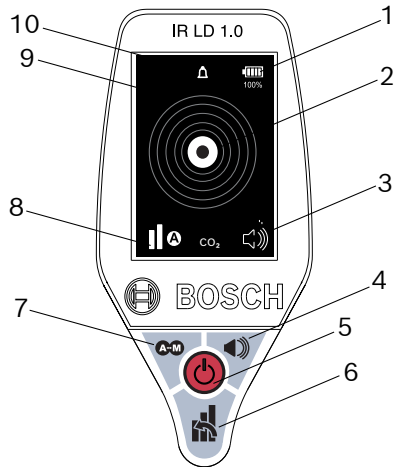

Fig. 2: Front panel components and display indicators
- Press the Power button to power ON the IR LD 1.0 (see Fig. 2; item 5).
To change the sensitivity level, press the Sensitivity button (see Fig. 2; item 6):
- Pressing the Sensitivity button repeatedly will cycle through the three sensitivity levels (see Fig. 2; item 6).
- Press the Mode selection button (see Fig. 2; item 7).
- Press the Audio ON/OFF button (See Fig. 12; item 12a or Fig. 2 item 4).